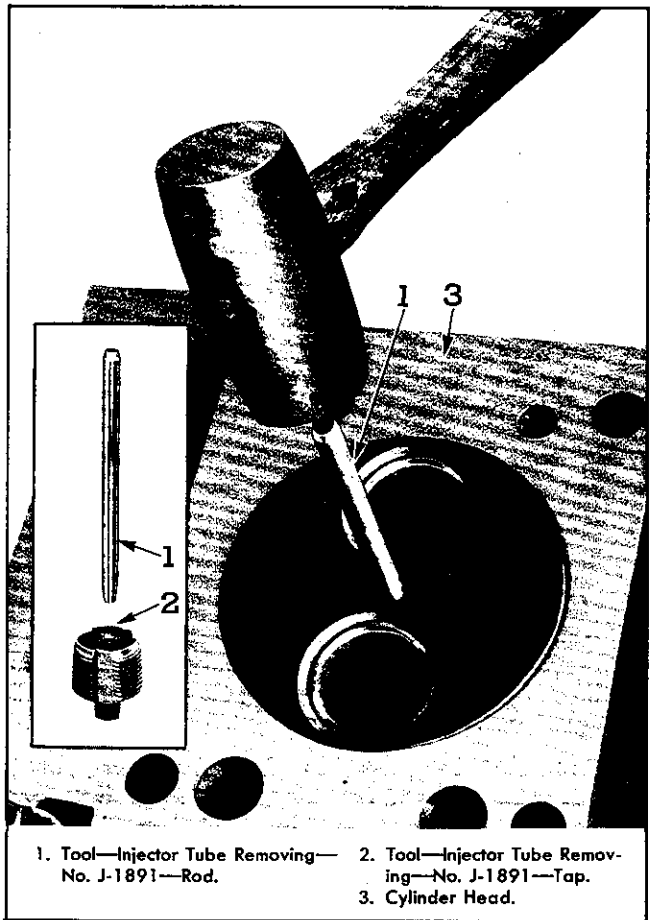

Fig. 27—Removing Injector Copper Tube from Cylinder Head with Tool J-1891 (Operation 2).
6. Invert cylinder head and insert driving handle through spray tip opening of tube until it rests against threaded tool. Then drive copper tube out top of head as illustrated in Fig. 27.